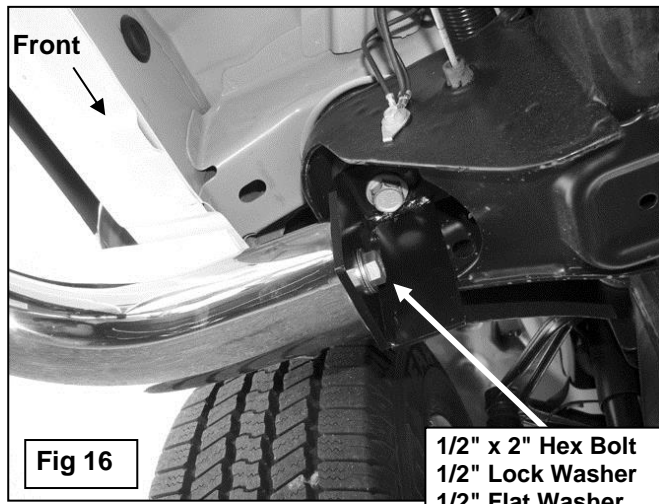

Fig 16
9. With assistance, carefully position the Side Bar up to the front Bracket and onto the (3) Mounting Brackets. Attach the front of the Sidebar to the Front Bracket with (1) 1/2" x 2" Hex Bolt, (1) 1/2" Lock Washer and (1) 1/2" Flat Washer, (**Figure 16**). Leave hardware loose.